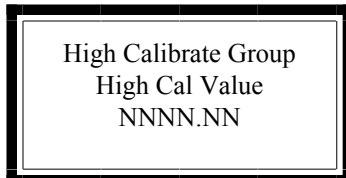

Figure 10a: Entering the High Calibration Value.
- 3) Toggle the "Next" key until you reach "High Cal Value Value" Menu, Figure 10a, and set the value to the desired High Cal Value. (See pages 1-3 on modifying Menu Variables).